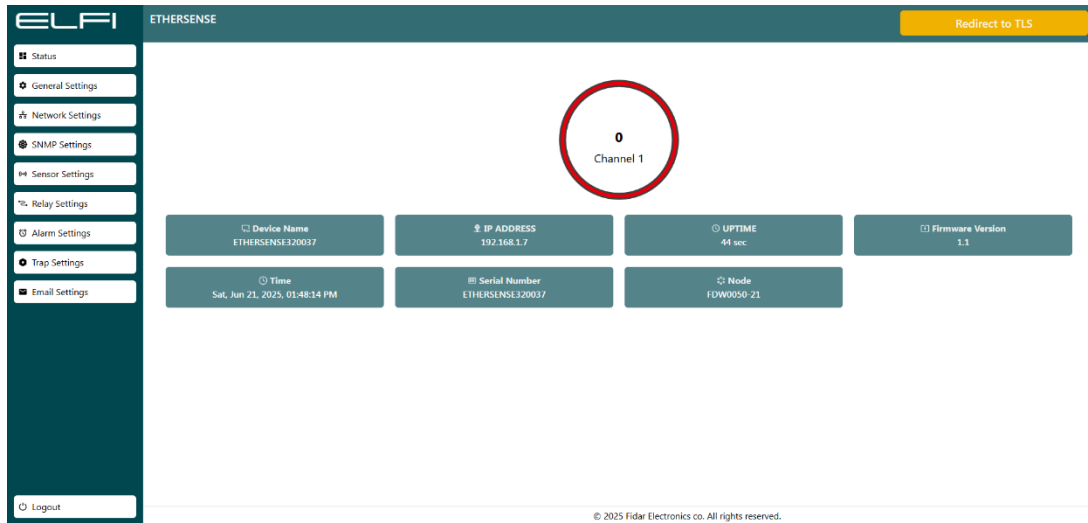

Figure 6: Sensor “Status” Menu
The Status page is specifically designed to provide real-time monitoring of the Water Leakage Sensor's performance. This digital sensor operates in only two states: Active (1) and Inactive (0). This page can be used to observe critical events within the system (see Figure 6).